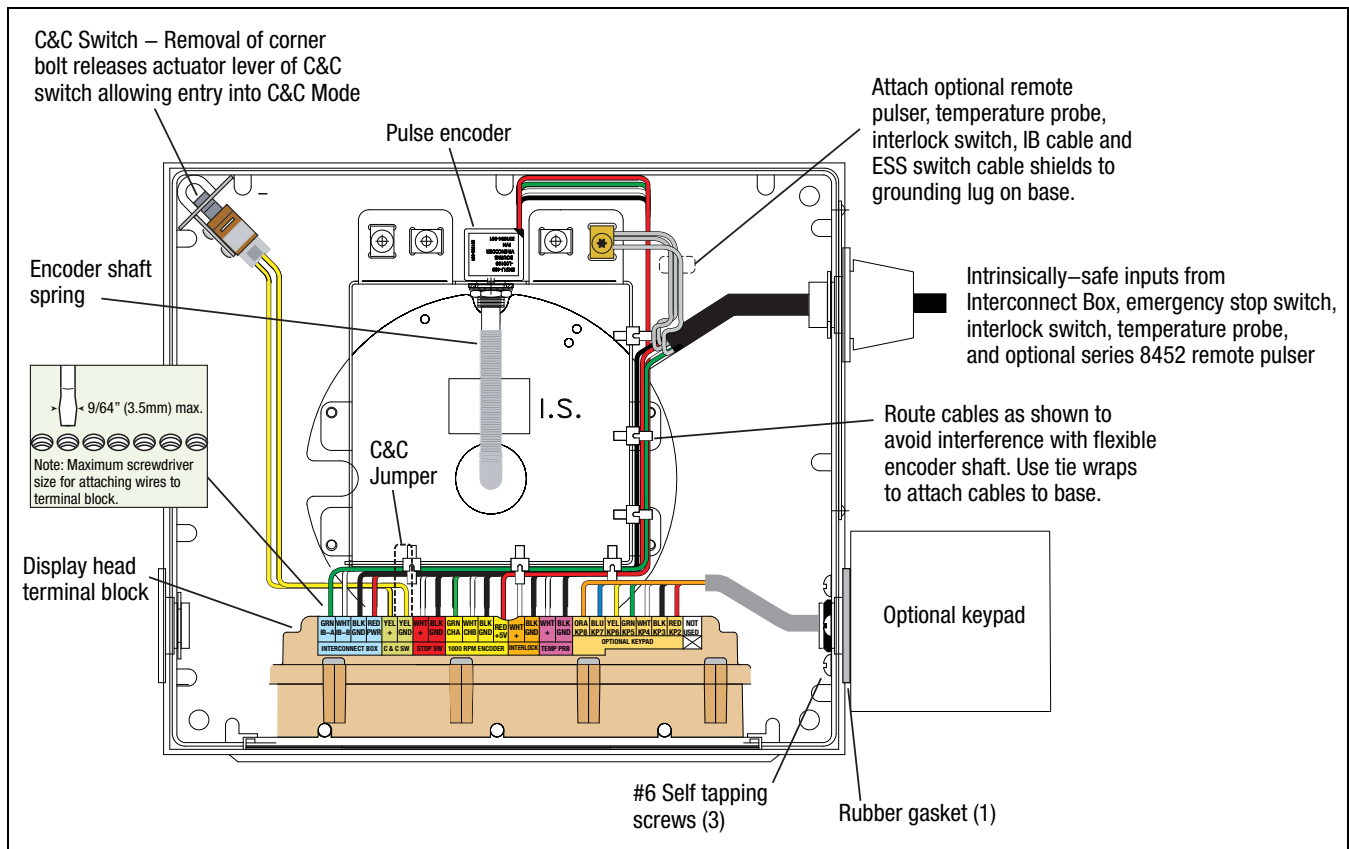

Figure 20. Display Head Cable Connections
10. Look at the base of the Display Head. Locate the Encoder Drive Spring (see Figure 20). Pull/slide the encoder spring off of the encoder shaft.
2. Slide the cord grip nut and then the bushing over the IB cable leads. Pull enough cable through so that the leads reach the terminal block on the display assembly and can be tie wrapped to the pulse encoder mounting base as shown in Figure 20. Slide the tapered end of the bushing into the cord grip, then screw on the cord grip nut and tighten securely.
3. Attach the four-wire IB cable to the terminal block where shown in Figure 20. Attach the drain wire of the IB cable to a grounding lug on the Pulse Encoder mounting base.
4. If you have the optional temperature probe and/or ESS switch, remove the lower cord grip nut and slide it, then the tapered bushing, over the temperature probe and/or ESS switch cable. Pull enough cable through so that the leads reach the terminal block on the display assembly and can be tie wrapped to the pulse encoder mounting base as shown in Figure 20. Slide the bushing into the cord grip and then screw the cord grip nut onto the cord grip and tighten securely. Attach the shield of the temperature probe cable and/or ESS switch cable to a grounding lug on the pulse encoder mounting base.
The C&C corner switch assembly (P/N 845900-018) that fits into one corner of the Display Head's housing (see Figure 20). To enter C&C mode, remove the corner bolt from the Display Head's cover. To exit C&C mode, replace the bolt. When using the corner switch, remove the C&C jumper.
Figure 20 shows the installation and wiring of the optional keypad. To attach the keypad housing mounting screws, you will need to pull/slide up the display assembly away from the Display Head. Insert the keypad wires through the center hole in the gasket, slide the gasket down against the keypad and align its three holes with the mounting holes in the keypad. Hold the keypad against the Display Head and screw in the 3 mounting screws, replace the display assembly and then connect the keypad wiring to the terminal block as shown in Figure 20. The screws are self-tapping. The user may want to pre-tap the holes using the screw to ease installation.